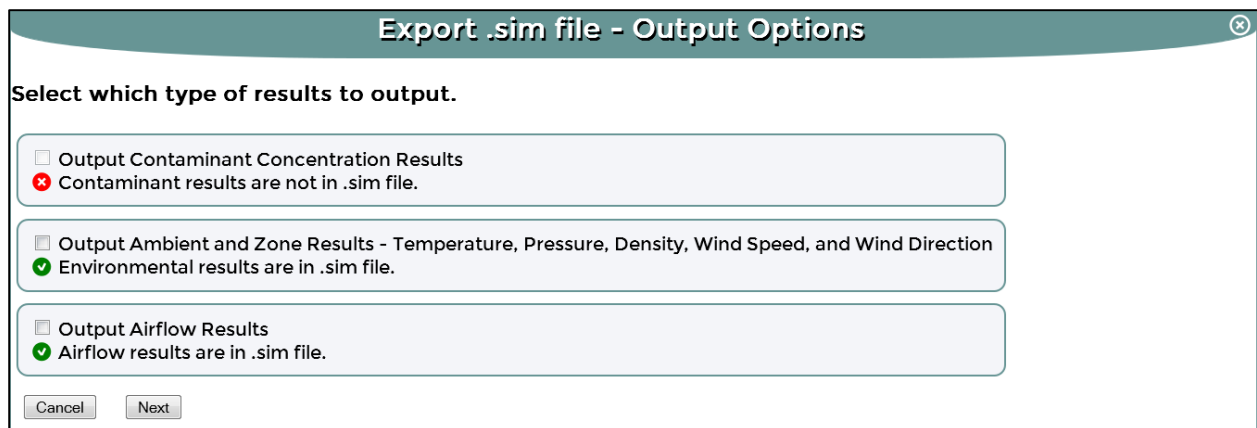

Figure 4. Three types of results within the “Export .sim file to text files” feature
3. Choose from three types of results to output: Output Contaminant Concentration Results, Output Ambient and Zone Results, and Output Airflow Results (Figure 4).